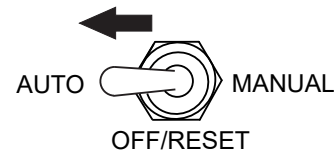

Figure 62. Auto Start/Stop Switch (Auto Position)
3. Place the **Auto Start/Stop switch** (Figure 62) in the **AUTO** position.